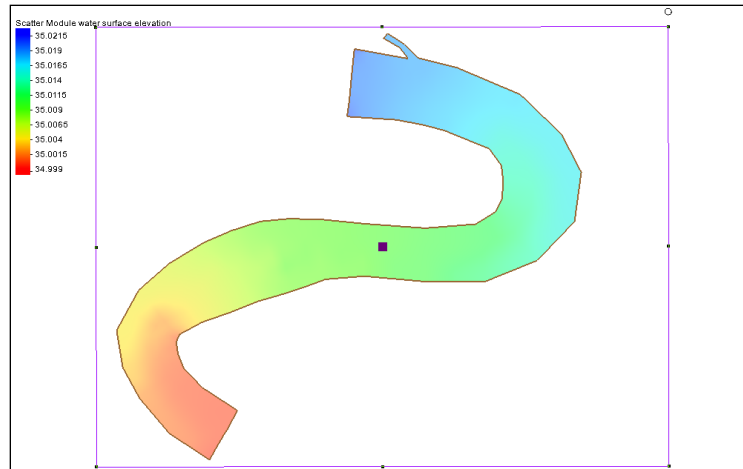

Figure 3 Grid frame enclosing the S-curve
6. Using the **Create 2-D Grid Frame** dynamic tool, create a grid frame enclosing the entire S-curve, as shown in Figure 3.